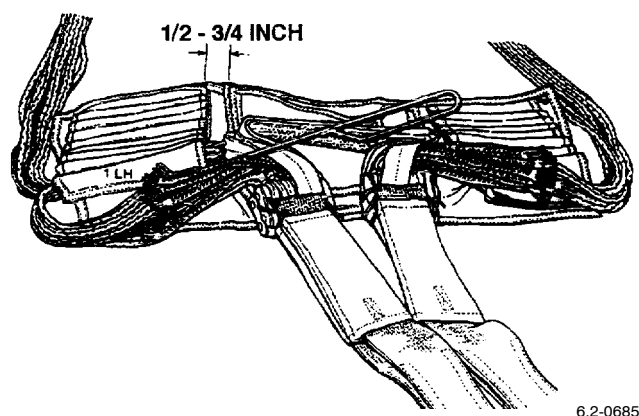

Figure 35. Stowing LH Suspension Lines - Stage 2
g. Stow the first bight of the LH group of suspension lines in sleeve No. 1 LH using the stowage hook. Make sure that the lines outside the base of No. 1 sleeve are taut and that bights protrude about 1/2 to 3/4-in. from inboard end (Figure 35).